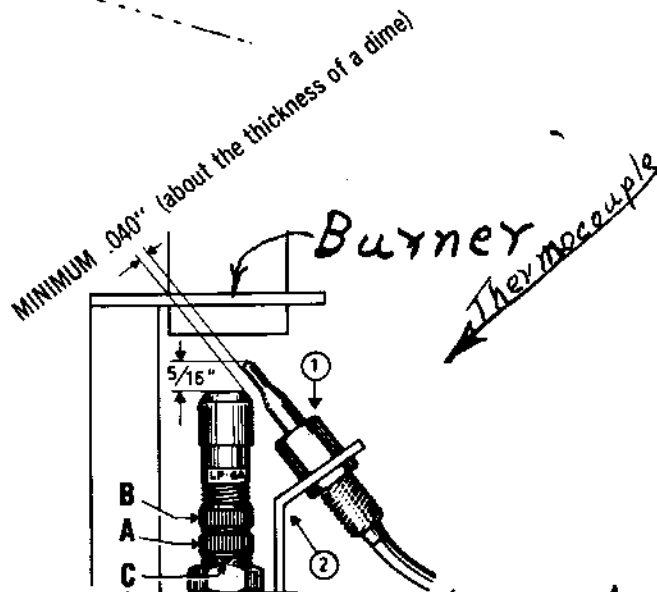

FIGURE 8-B
- The thermocouple tip may not be in the flame. The thermocouple should be at an approximately 45° angle to the burner located per figure 8-B.